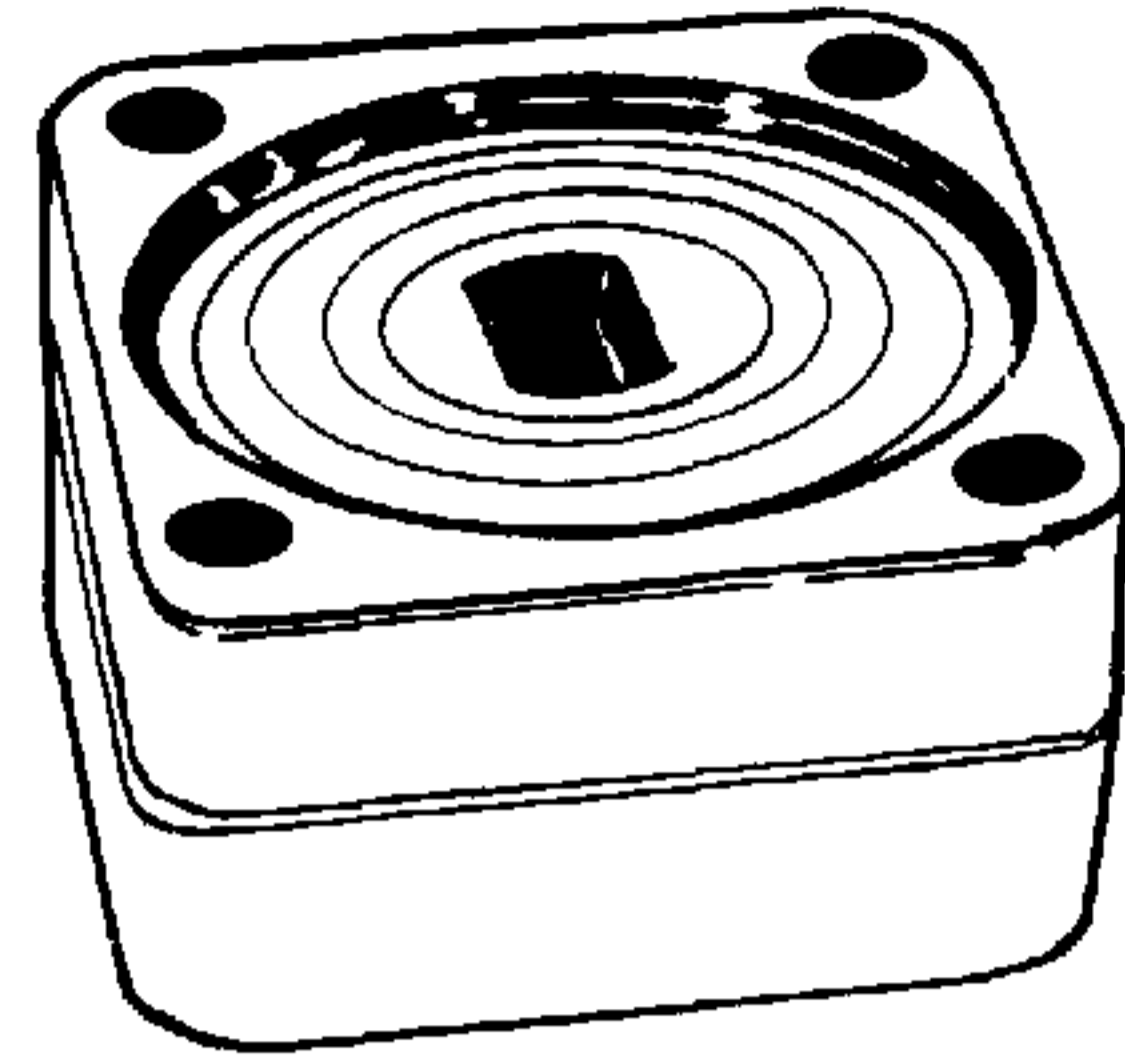

Figure 4-64. Installing Metering Package and Shims In Metering Ring.
18. Place one piece of .007 inch (.18 mm) shim stock approximately .5 inch (13 mm) wide x 1.5 inch (38 mm) long between the metering ring and drive plate in three places approximately equal distance around the outside diameter of the drive plate. Place another piece of the .007 inch (.18 mm) shim stock between the drive plate and each of the three pieces of shim stock already in place. Lift the metering ring and metering package and remove the wood block. Push the metering package and shims into the metering ring until the drive plate and shims are at least flush with the metering ring. See Figure 4-64.